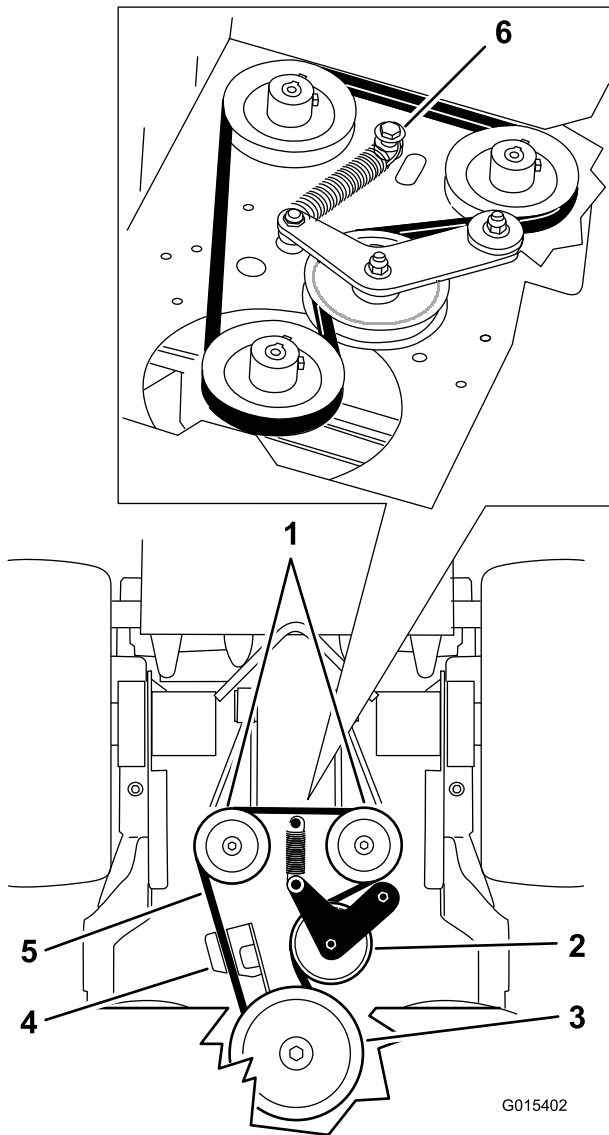

Figure 63
5. Remove the shoulder bolt, the nut, and the washer from the engine deck and connected spring (Figure 63).
6. Remove the pump-drive belt (Figure 63).
8. Install the spring onto the shoulder bolt and washer, and connect it to the engine deck with the nut (Figure 63).